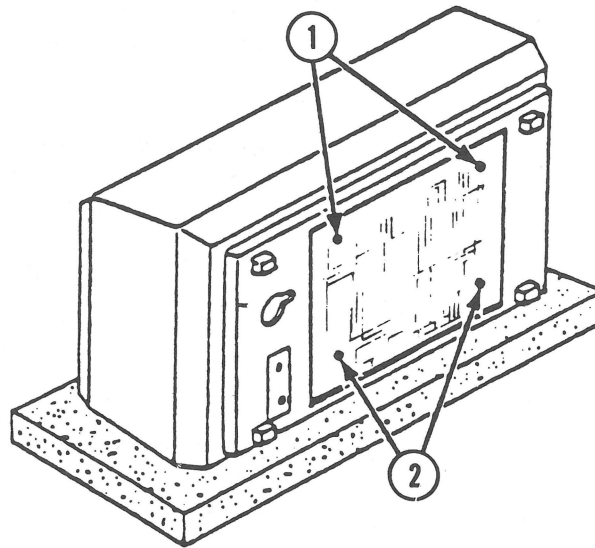

FIGURE 16
7. Using a pad or cushion for protection, set the printer on its back (Figure 16). You will have to hold it in this position for the next few steps.
10. Use an 7 mm nutdriver to remove the four CPU PC board nuts (Figure 16, #1).
4. Replace the four CPU PC board nuts (Figure 16, #1).